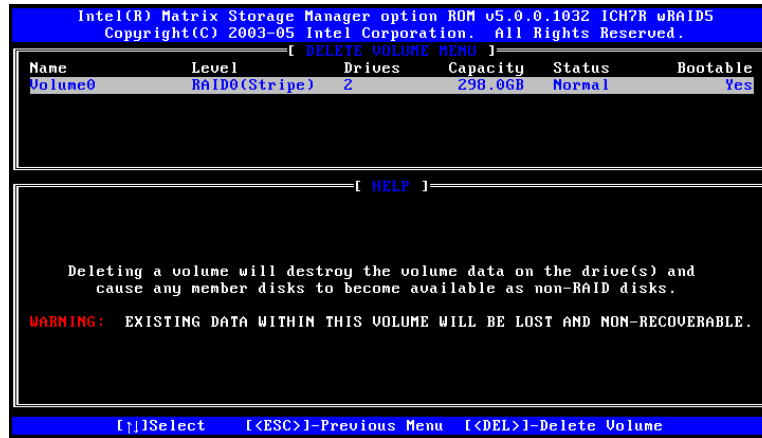

Figure E-9: Select RAID Volume to be Deleted
Step 2: Select RAID Volume to be Deleted. Use the arrow keys to highlight the RAID volume to be deleted and press **ENTER**. See Figure E-9.